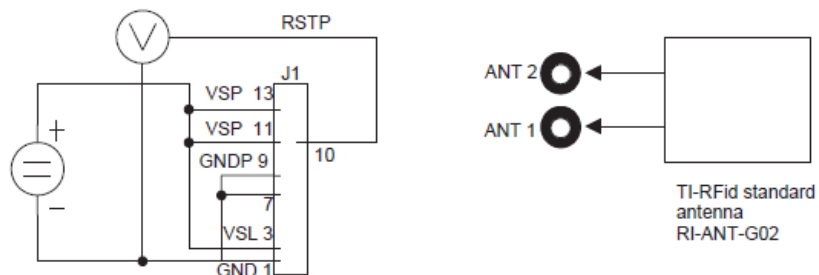

Figure 8.5 Noise Testing Configuration
Try the configuration shown in Figure 8.5. If this configuration shows bad noise conditions (RSTP voltage more than approximately 1.0 VDC) then the problem is radiated noise.
1. When the configuration of Figure 8.5 shows good noise conditions (RSTP voltage less than 1.0 VDC) then the problem is conducted noise.